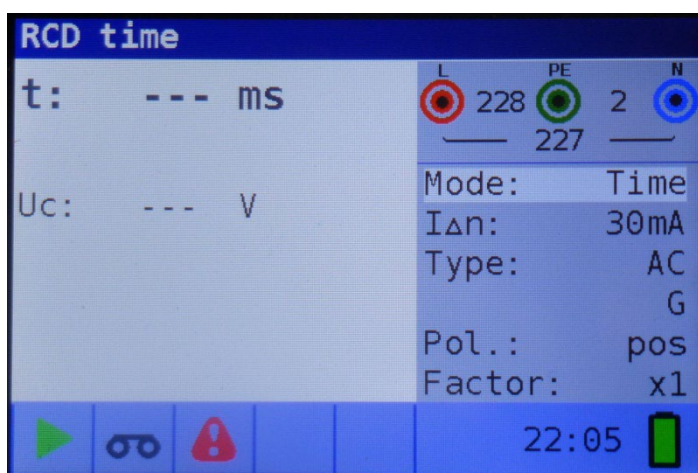

Figure 5-15: Trip-out time measurement menu
Step 3 Connect the test leads to the instrument and follow the connection diagram shown in figure 5.15 to perform contact voltage measurement.
Step 3 Connect the leads to the instrument and follow the connection diagram shown in figure 5.15 (see the chapter 5.3.6 *Contact voltage*) to perform trip-out time measurement.
Step 3 Connect the test leads to the instrument and follow the connection diagram shown in figure 5.15 (see the chapter 5.3.6 *Contact voltage*) to perform trip-out current measurements.
Step 3 Connect the test leads to the instrument and follow the connection diagram shown in figure 5.15 (also see the chapter 5.3.6 *Contact voltage*) to perform the RCD autotest.